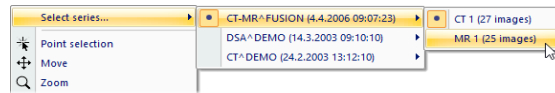

Figure 133 – Series selection using the context menu
2. Right-click to display its context menu (see Figure 133).